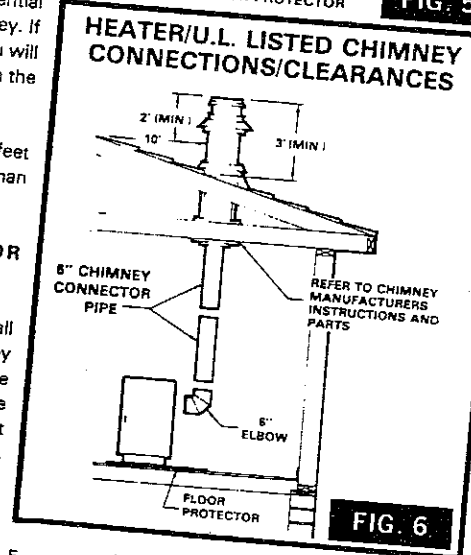

FIG. 6
1. The chimney connection should be as short as possible. The heater must have its own chimney. Do not connect this unit to a chimney flue, serving another appliance. If there is no chimney near where you wish to place the heater, you can use a UL Listed Residential Type and Building Heating Appliance Chimney (Fig. 6).
Carefully follow chimney manufacturer's instructions. Use only a UL Listed Residential Type and Building Heating Appliance Chimney. If your chimney starts at the ceiling (Fig. 6), you will need a 6" elbow and enough 6" pipe to reach the ceiling.
The top of the chimney must be at least 3 feet above the roof and be at least 2 feet higher than any point of the roof within 10 feet (Fig. 6).